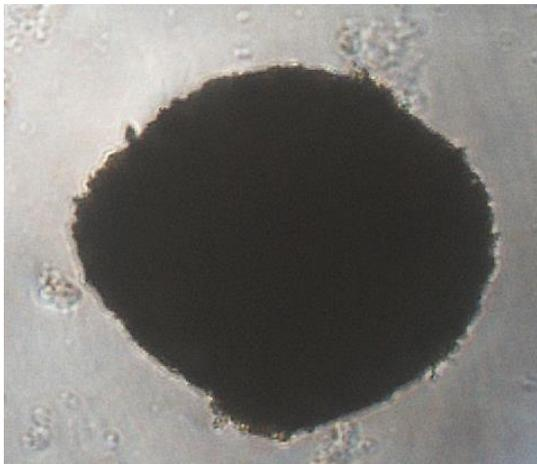

Figure 1. Hepatic spheroids spontaneous self-aggregation 5 days after seeding (image taken at 4x).
4. Let the cells rest and form the spontaneous self-aggregation of the spheroids at 37°C and 5 % CO₂ (Figure 1).